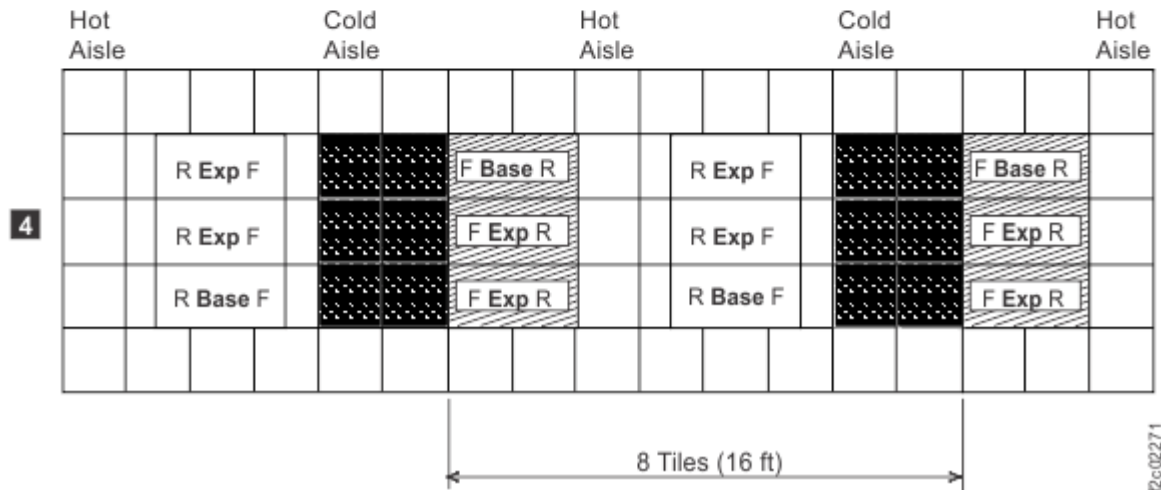

Figure 20. Typical rack and perforated tile locations for hot and cold aisles
- a. For stand-alone base frames, install two fully perforated tiles in front of each base frame, as shown in Figure 20 on page 112 in the single-machine examples (**1** and **2** in the figure).
- b. For a row of storage systems, install a row of perforated tiles in front of the storage systems as shown in Figure 20 on page 112 (**3** in the figure).
- c. For groupings of storage systems, where a hot aisle/cold aisle layout is used, use a cold aisle row of perforated tiles in front of all storage systems. An example of a possible minimal arrangement is shown in Figure 20 on page 112 (**4** in the figure).
Note: Keep in mind that the example represented in Figure 20 on page 112 meets service clearance requirements. However, floor loading requirements might require a wider hot aisle to provide up to 30 inches of non-overlapping clearance (for total of 60 inches between the rear side of the frames on either side of the aisle.)